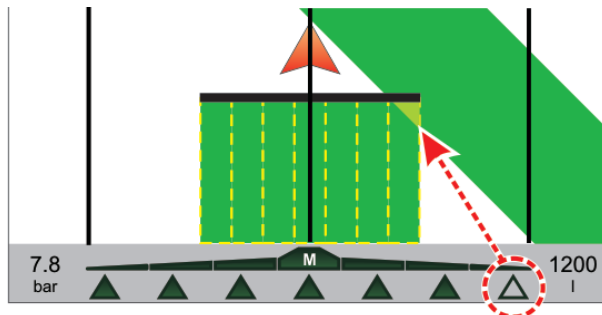

Fig. 99
- When overlapping exceeds set value for **Overlapping limit**, Skipper LT prompts you to CLOSE affected sections (Fig. 99).